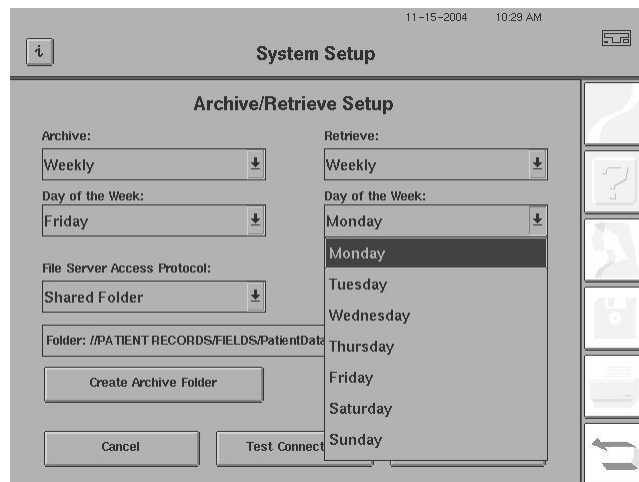

Figure I.22 Selecting a Day of the Week for Automatic Archive Retrieval
- 3 If you select Weekly automatic retrieval, a Day of the Week drop-down box appears below the Retrieve drop-down box. As is shown in Figure I.22, you can select any day from MONDAY to SUNDAY. On your selected day, the HFA II-*i* will retrieve instrument data from the server automatically. Data retrieval will occur at instrument startup.